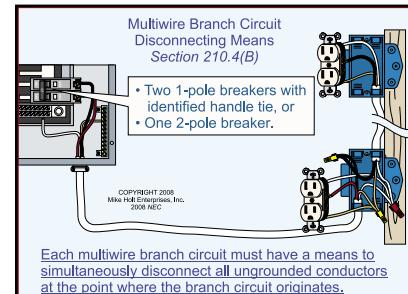

Fig. 210-2
(B) Disconnecting Means. Each multiwire branch circuit shall have a means to simultaneously disconnect all ungrounded conductors at the point where the branch circuit originates. (See *Figure 210.2*)